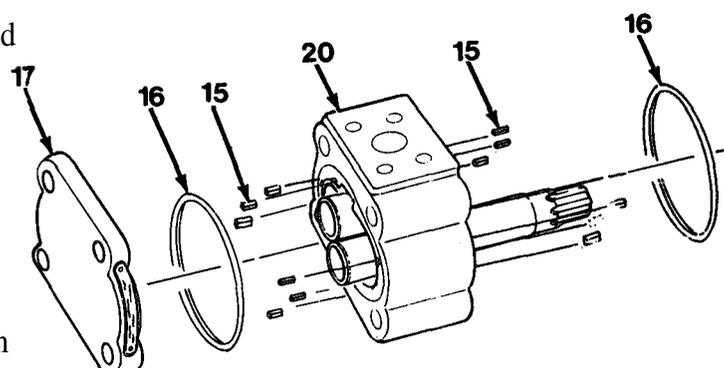

Figure 16-9
11. Remove six pocket seals (15) and gasket seal (16) from gear housing (20, Figure 16-9).
12. Remove port end cover (17).
13. Remove remaining six pocket seals (15) and gasket seal (16).